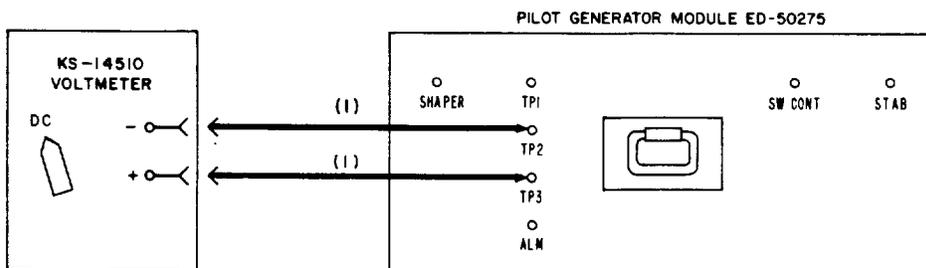

Fig. 6—104.08-kHz Switch Control Output Measurement
4	Adjust the STAB control at upper right on the right-hand (standby) pilot generator module ED-50275 (Fig. 6) under test.
17	Measure the voltage at test points TP2 and TP3 on the left-hand (regular) pilot generator module ED-50275 under test [patch (1), Fig. 6].  Requirement: 8.3 $\pm$ 0.1 volts dc
22 Measure the voltage at test points TP2 and TP3 on the right-hand (standby) pilot generator module ED-50275 under test [patch (1), Fig. 6].
17	Measure the voltage at test points TP2 and TP3 on the left-hand (regular) pilot generator module ED-50275 under test [patch (1), Fig. 6].
22	Measure the voltage at test points TP2 and TP3 on the right-hand (standby) pilot generator module ED-50275 under test [patch (1), Fig. 6].